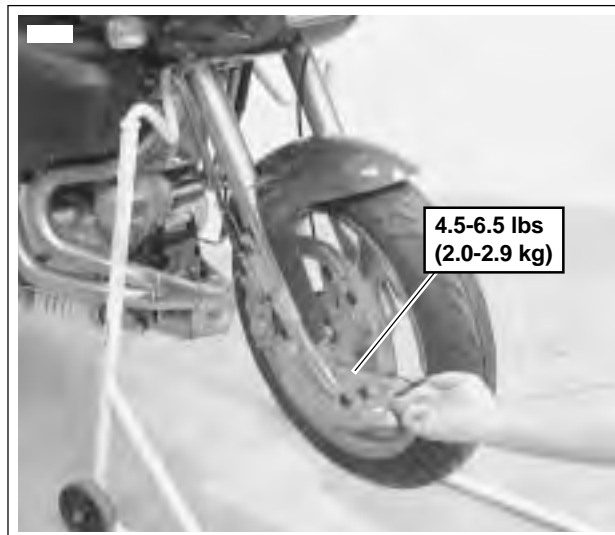

Figure 1-38. Checking Steering Head Bearings (Typical)
1. See Figure 1-38. Raise front wheel off floor using FRONT WHEEL SUPPORT STAND (Part No. B-41395-A) and an automotive Engine Hoist.